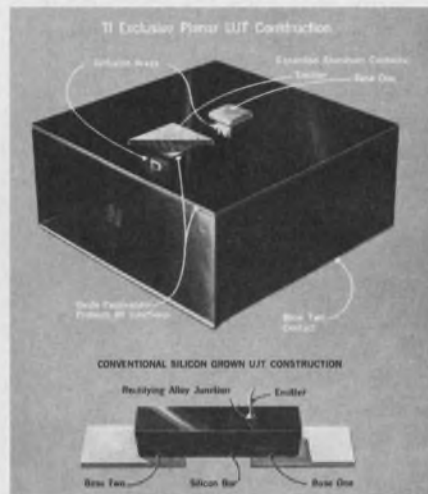

Figure 3. TI's exclusive planar UJT gives lower leakage and greater reliability than conventional silicon alloy UJT's.
Therefore, if the total impedance match can be changed considerably by the diode's position, a given change in  $R_L$  or temperature will improve or degrade the match, as shown in Figs. 3 and 4. This effect can change a positive temperature coefficient to a negative one with a mere change in the diode's axial position.
Vibration and shock resistance have been increased threefold over alloy UJT's through use of the more rugged planar construction (shown in figure 3) and a solid, one-piece plastic package. The TIS43 will withstand over 60,000 G constant acceleration, making it ideal for use in military fuzes and heavy-duty industrial applications.
Equation 3 will not give explicit solutions for rise and fall times, because of the transcendental nature of the expression. The desired information is obtained indirectly by finding the 10% and 90% points of the output waveshape. These points can be easily located by constructing families of curves of the two exponential expressions  $-\tau_2(1 - e^{-t/\tau_2})$  and  $\tau_1(1 - e^{-t/\tau_1})$ . These curves (Fig. 3), represent a relevant set of parameters and RC load values.
The curve obtained from Fig. 3 does not reflect the in-phase overshoot component of the output voltage. An approximate expression for this component can be found and plotted for the subsequent addition of this characteristic (as a correction term) to the output voltage curve.
2. Using the  $\tau_1$  and  $\tau_2$  values, draw two interpolated curves as shown by the heavy lines in Fig. 3.
3. Add graphically the magnitude of the two interpolated curves to obtain the output waveshape shown in Fig. 3.
6. Correct the scale factor by the constant multiplier  $C_c(R_E + r_e)/\alpha_o$ , to adjust the curve to the scale of Fig. 3. Here the multiplier is 2.17 ns.
7. Add the adjusted overshoot curve to the uncorrected output waveshape, shown in Fig. 3, to produce the corrected waveshape. For the case under discussion, it can be seen that the 10% point of the corrected waveshape occurs at 6.0 ns, and the 90% point occurs at 21.5 ns. ■ ■